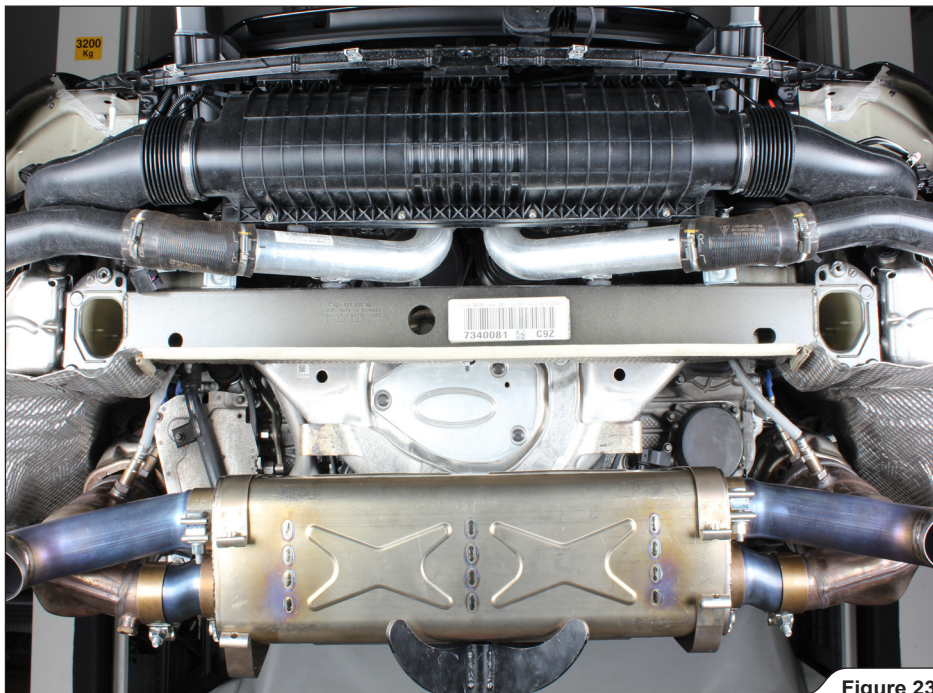

Figure 23
- Partially install the assembled muffler/stock link pipes onto the vehicle as shown and tighten all lambda sensors into the link pipes (**Figure 23, 24**).